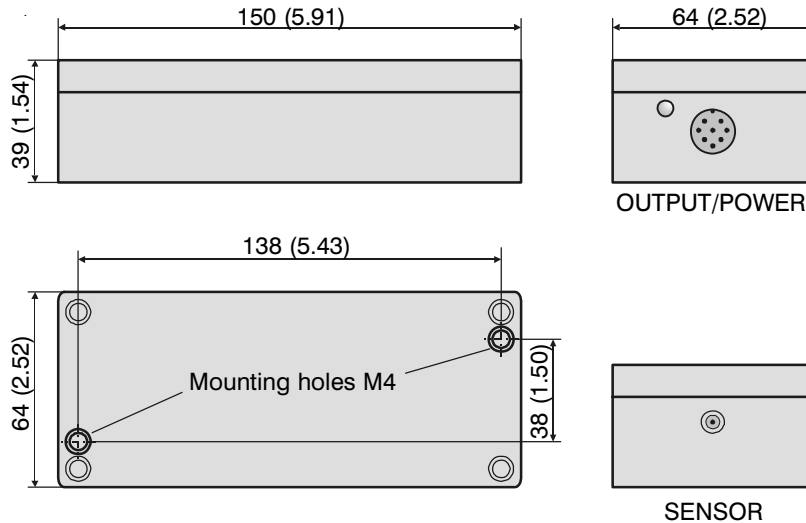

Fig. 4.9: Controller dimensions, not to scale
- 1) the 8-pole panel socket (Fig. 4.9, "Output/Power") on the controller and